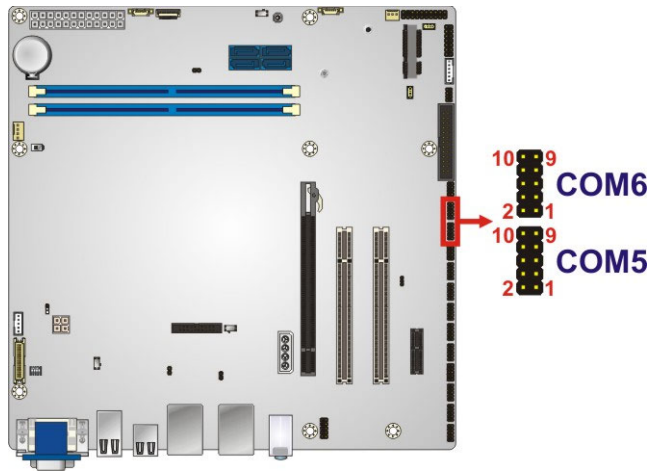

Figure 3-27: RS-232/422/485 Serial Port Connector Locations
CN Location: See Figure 3-27
- CN Location:** See **Figure 3-27**